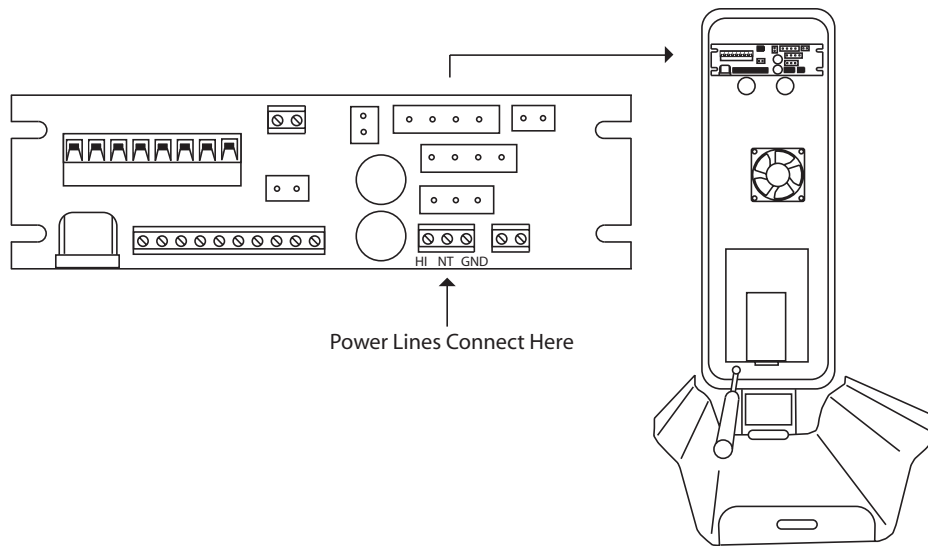

Figure 2-3 Power Line Connection
6. Identify the two 24 VAC wires in the power cable. Connect them to the 'HI' and 'NT' screw terminals on the terminal block depicted in Figure 2-3. In addition, identify the protective safety ground wire and connect it to the GND terminal depicted in Figure 2-3.